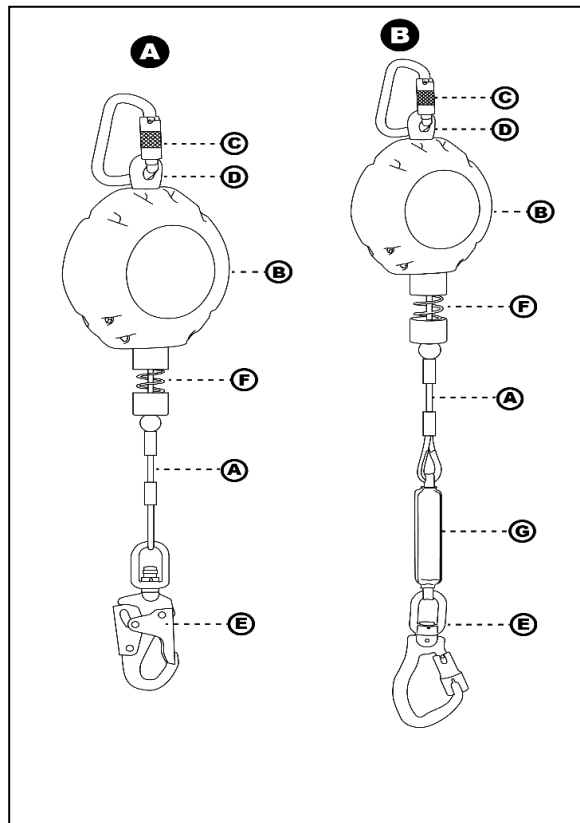

Figure 1: Key components of cable (A) and leading edge(B) Self-Retracting Devices
3.1 KEY COMPONENTS: Refer to Figure 1 for identification of key components of Self-Retracting Devices. 5206 Series SRD's are drum wound Cable Lifelines (A) that retract into a Nylon Housing (B). The Swivel Eye (D) on top of the SRD allows units to hang from anchorage by an attached Carabiner (C). The SRD is attached to the Fall Arrest connection on a Full Body Harness via a self-locking snap hook (E) on the end of the Lifeline. The Wire rope and Ferrules, which secure the snap hook, are protected from abrasion and corrosion by a Bumper (F).